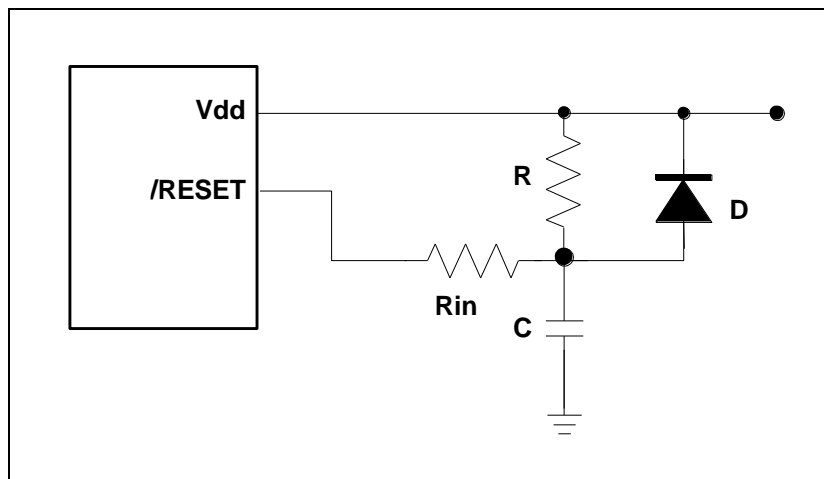

Figure 6-24 External Power-up Reset Circuit
The circuit shown in Figure 6-24 uses an external RC to generate a reset pulse. The pulse width (time constant) should be kept long enough for Vdd to reached minimum operation voltage. This circuit is used when the power supply has slow rise time. Because the current leakage from the /RESET pin is  $\pm 5\mu\text{A}$ , it is recommended that R should not be greater than 40K. In this way, the /RESET pin voltage is held below 0.2V. The diode (D) functions as a short circuit at the moment of power down.